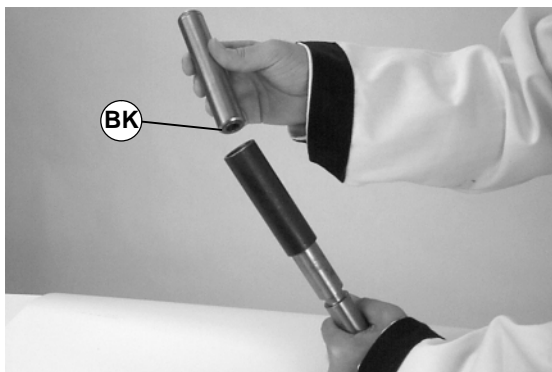

Figure 44
- Place open end of shaft (BK of Figure 44) into sleeve.